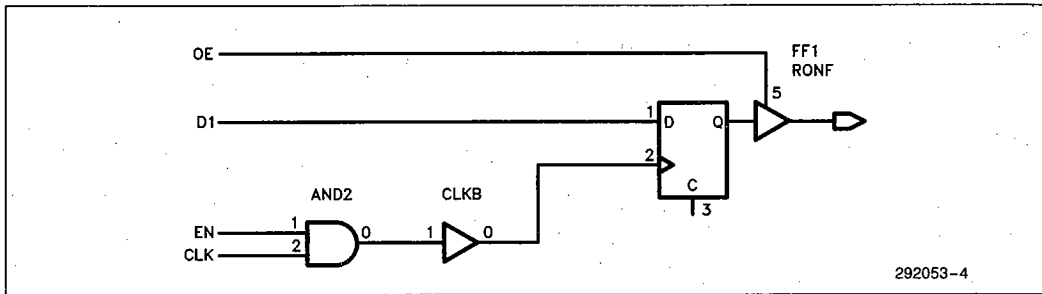

Figure 3a. Summit Five—Asynchronous Clock and OE Before
**WORKAROUND:** To get around this problem, one of the signals must be routed through another macrocell (see Figures 3a-b). The clock could be generated in another macrocell, sent out to a pin, then sent back in on the synchronous clock pin. Alternately, in a first macrocell the register is placed as an asynchronously clocked NORF. In a second macrocell, the register feedback is sent out to a pin using a CONF enabled by the desired enable signal.